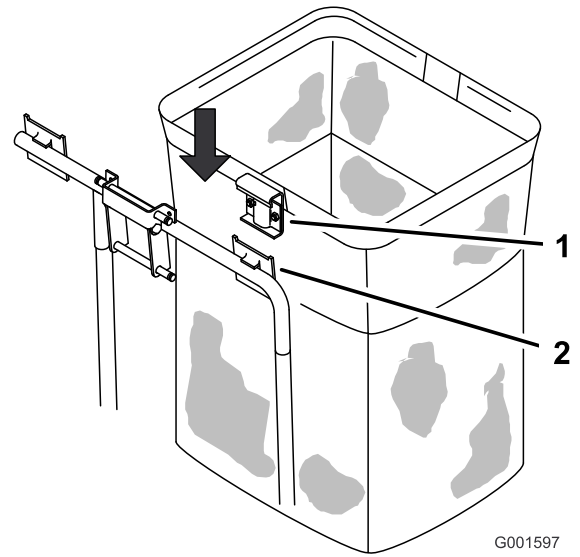

Figure 17
2. Install the bags by sliding the bag frame hooks onto the retaining brackets (Figure 17).